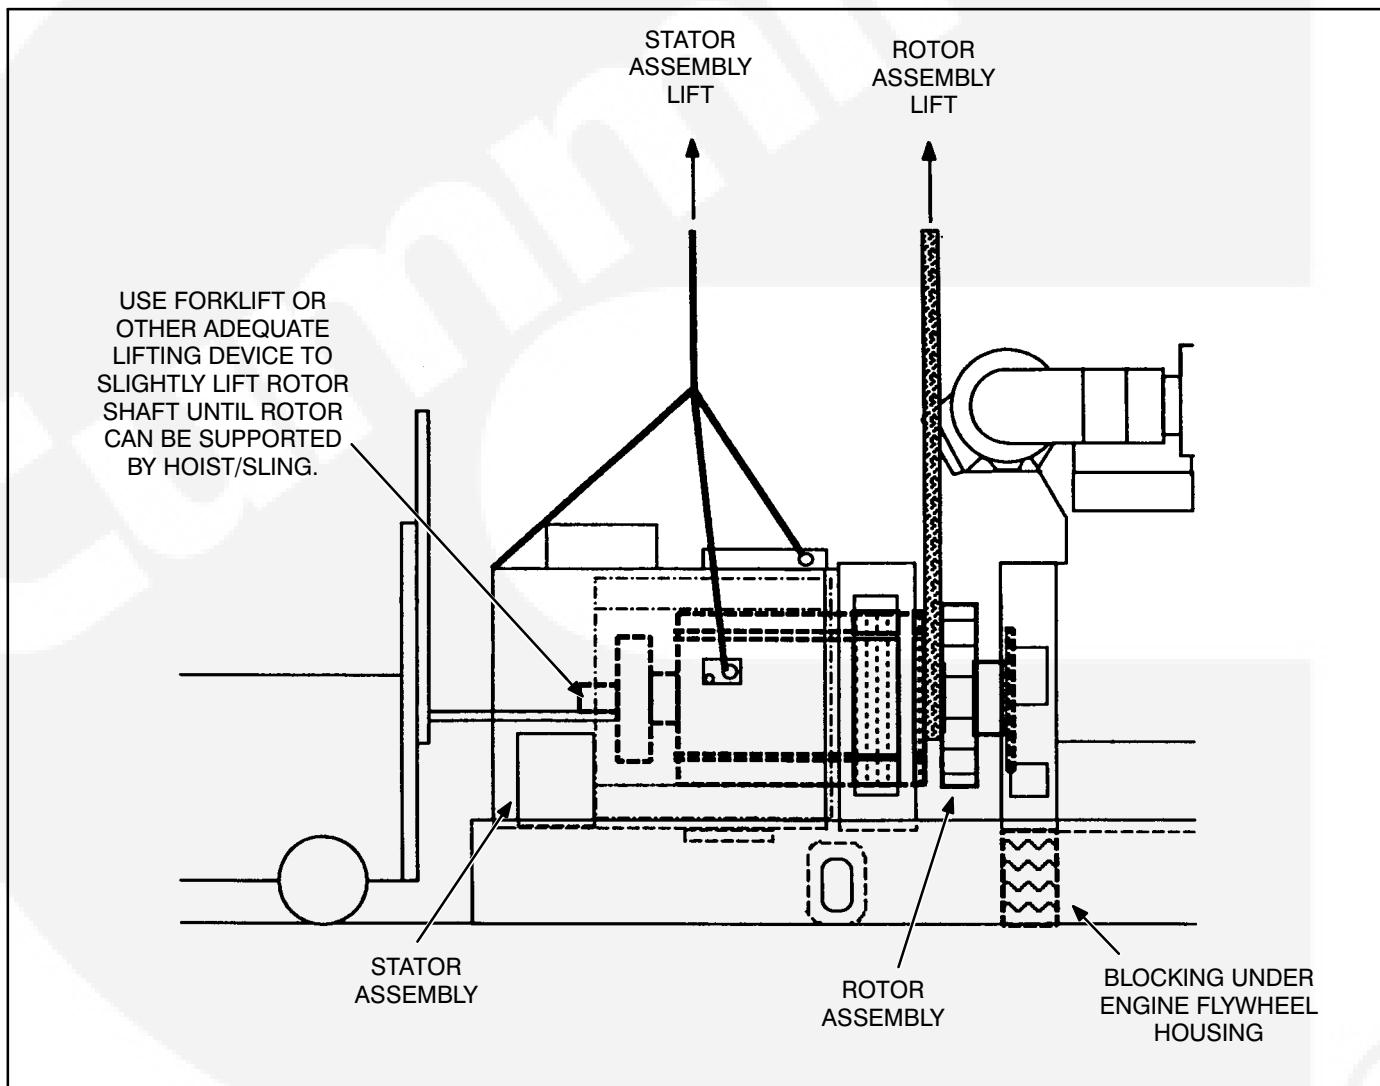

FIGURE 6-12. REMOVING HC4-7 STATOR ASSEMBLY
19. Using an adequate lifting device, lift the generator (at lifting eyes provided, and main stator housing) until the mounting feet brackets are clear of the frame member (see Figure 6-12 or 6-13).
- wheel housing. Lower the generator until most of the set weight is supported by the blocking (see Figure 6-12).
22. Using a forklift, position a lifting bar of the forklift (inside and inline with the generator) under the rotor shaft. Lift the rotor shaft slightly so that rotor is not resting on inside of stator assembly. See Figure 6-12 or 6-13.
32. If the engine does not have chassis mounts at generator end, block the rear of the engine in place by supporting the flywheel housing. A length of steel channel and wooden blocking is required to support the rear of the engine. Place the channel and blocking under the flywheel housing. Lower the generator until most of the set weight is supported by the blocking (see Figure 6-12).
4. Lift the generator slightly and remove any blocking from under the flywheel housing. Lower the generator (see Figure 6-12).